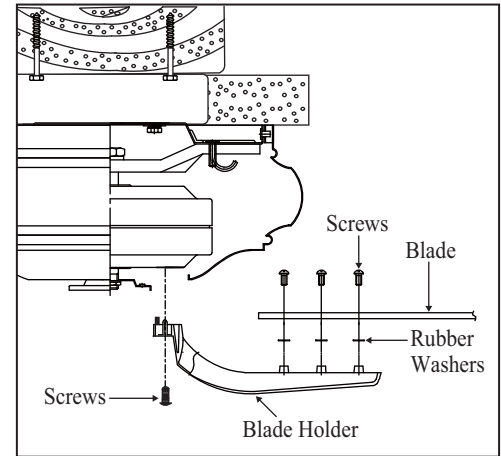

Figure 11
1. Attach the fan blades to the blade holders using the screws and rubber washers provided, tighten screws securely. (Fig. 11)
2. Align motor holes to blade holders and secure with screws provided, tighten screws securely. Repeat procedure with remaining blades. (Fig. 11)